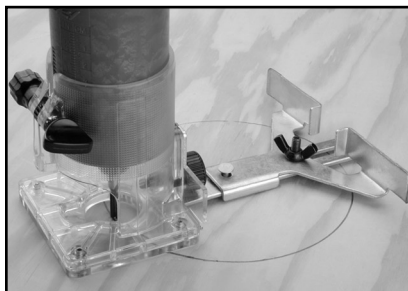

Figure 9. Guide setup for cutting circles.
1. Set up the straight guide as shown in **Figure 9** with the guide plate facing up.